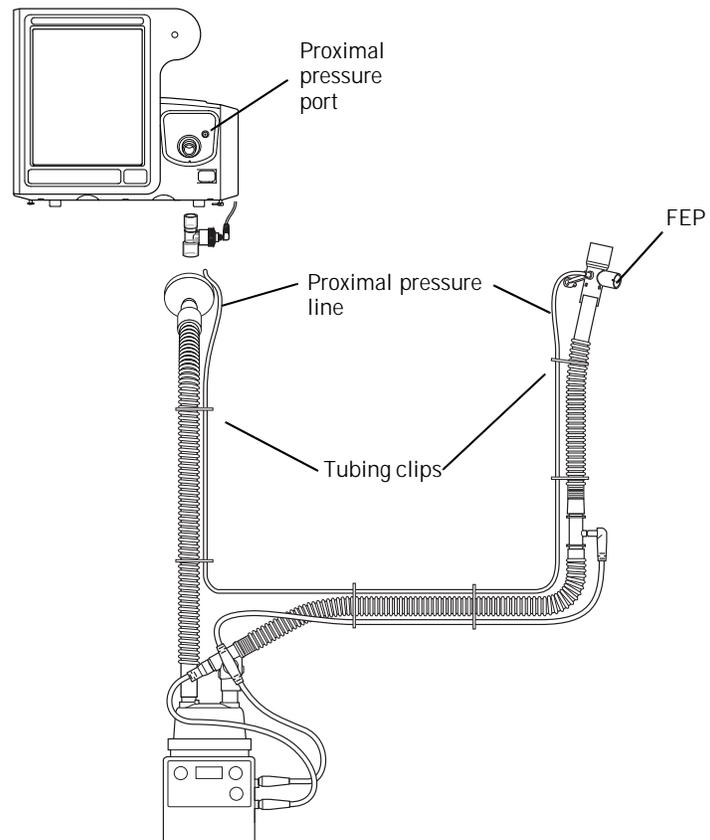

Figure 7-2: Proximal pressure line anchored to circuit with tubing clips
3. Leave the other end of the proximal pressure line connected to the FEP and anchor the tubing to the breathing circuit using several tubing clips (included with most circuits), as shown in Figure 7-2.